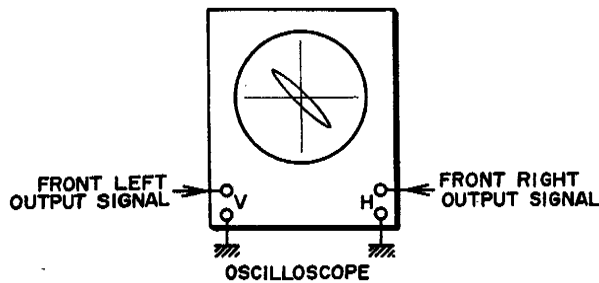

Fig. 22
- 1) Connect front left signal and front right signal line outputs to the vertical and horizontal input of an Oscilloscope. (See Fig. 22)